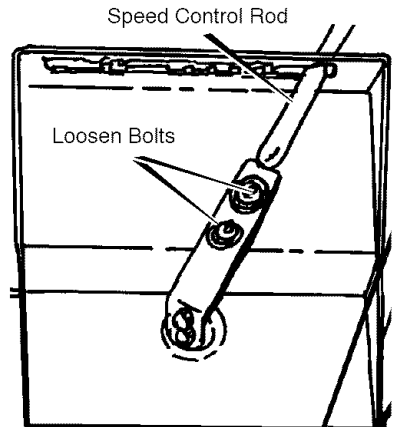

Figure 40
2. Loosen the **bolts** on the **speed control rod** (see Figure 40).
4. Tighten the **bolts** on the **speed control rod** (see Figure 40).